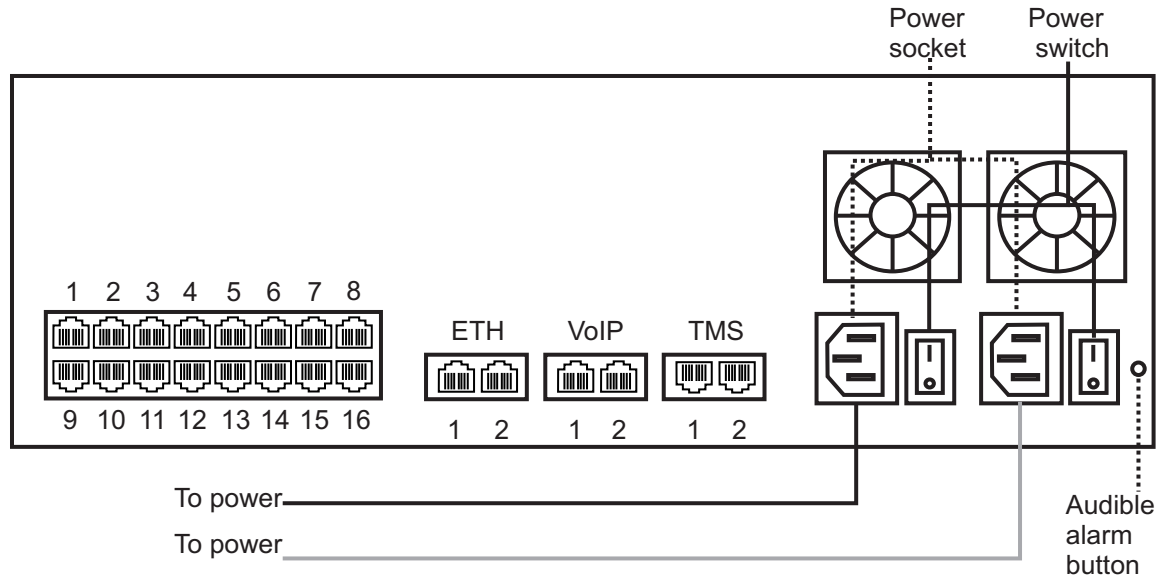

Figure 2.10 AC Power Connection
1. Connect the first AC power cable between the AC connector of the TMP5900 and an AC supply. Connect the second AC power cable between the AC connector of the TMP5900 and a second AC supply source. See figure 2.10 on page 20.